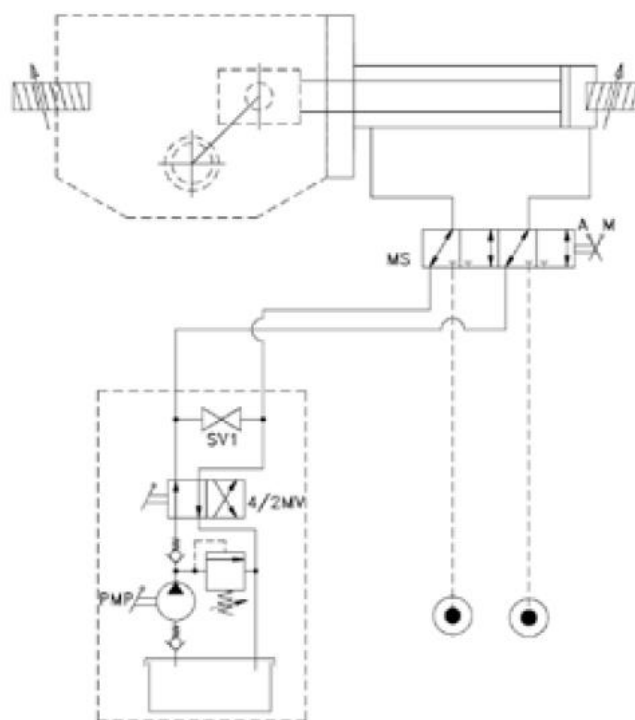

Figure 20 – Hydraulic Diagram of Manual Override for LHS Double Acting
3.1.5.1.2 Referring to the schematic diagram (Figure 20), switch the manual selector MS in manual position “M” and switch the manual stop valve SV1 in “MANUAL” position, as shown in the nameplate located nearby.